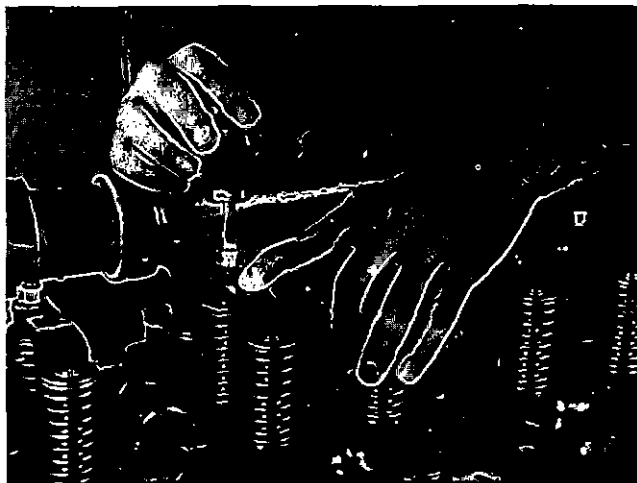

Fig. 14-66 (N114279). Adjust The Crosshead.
4. Hold the crosshead down against the valve stem that is nearest to the push rod. Use light pressure to hold the cross head. Turn the adjusting screw in until it touches the valve stem, Fig. 14-66.